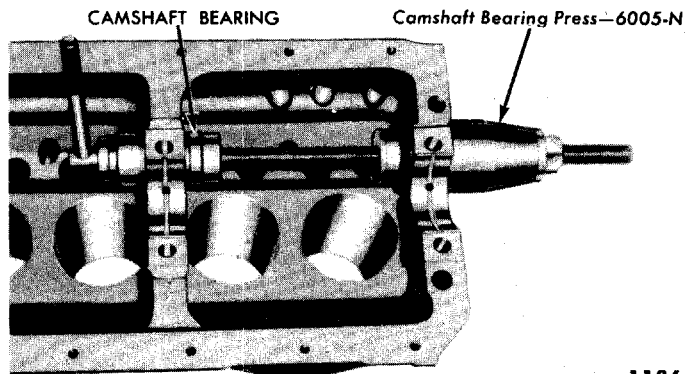

Fig. 48—Removing Camshaft Bearings
(1) **REMOVAL.** Remove the camshaft. Remove the plug at the end of the block. Remove the camshaft bearings using the tool shown in fig. 48.
(2) **INSTALLATION.** Select the correct size camshaft bearings after measuring the camshaft journal outside diameter and the inside diameter of the camshaft bores in the block. Position the camshaft bearing at the bearing bore and press the camshaft bearings into place. Be sure the oil hole in each bearing and bore are in alignment. The tool shown in fig. 48 is used to remove and install camshaft bearings. Apply sealer on the camshaft rear bearing plug and install the plug. Install the camshaft.